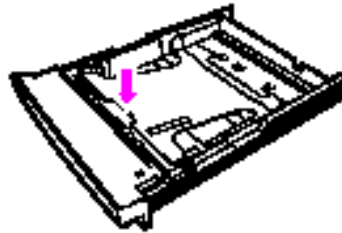

Figure 19. Lock in Metal Plate
5. Push down on the metal lift plate to lock it in place as shown in Figure 19.